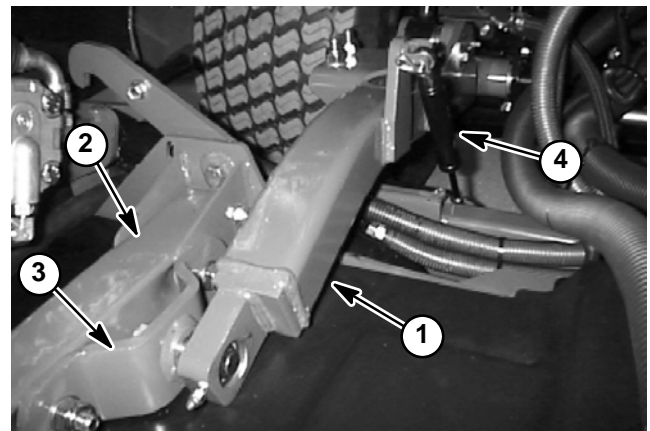

Figure 4
B. If rod ends were removed from damper, apply Loctite #271 (or equivalent) to threads and install on damper. Install damper assembly to lift arm with damper rod end toward deck (Fig. 4).